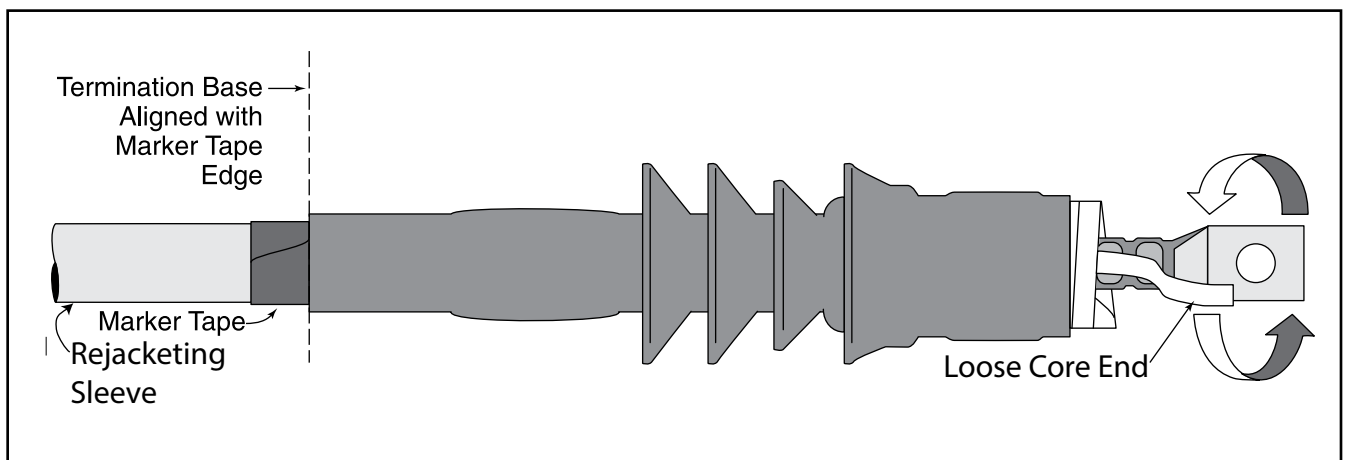

Figure 15
- (c.) Align the base of the termination (not the plastic core) with the installation marker tape as shown (Figure 15).
- (d.) To install, pull loose core end, while unwinding counter-clockwise around the cable (Figure 15).